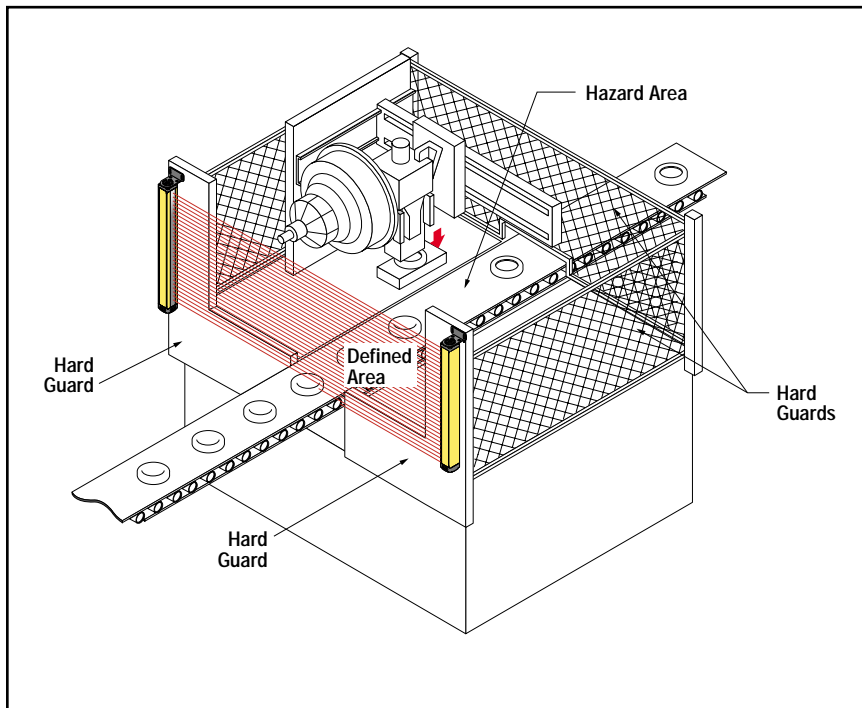

Figure 3-2. Example of hard guarding
ANSI B11.1-1988, 6.3.2 (14) requires that “all areas of entry to the point of operation not protected by the presence-sensing device shall be otherwise safe-guarded.” The hazard point must be accessible *only* through the defined area. This means that mechanical barriers (screens, bars, etc.), or supplemental presence-sensing devices (*supplemental guarding*) must be installed, wherever needed, to prevent any person from reaching around, under, or over the defined area and into the hazard point. The use of mechanical barriers for this purpose is called “hard guarding” (see the WARNING at right and Figure 3-2, below).